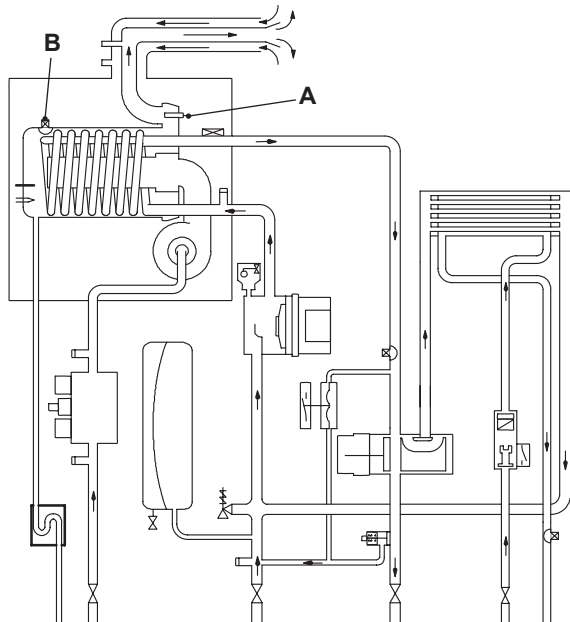
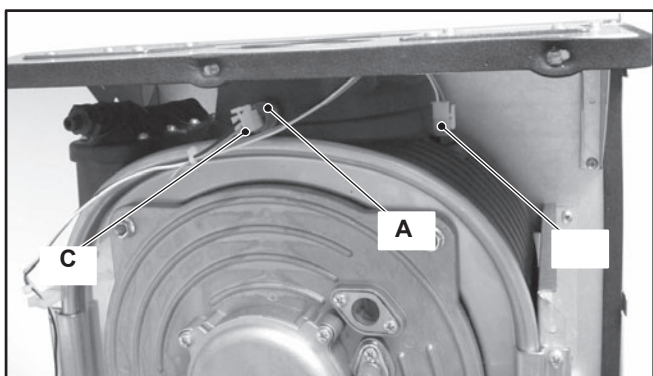

Figure 20.1
Figure 20.2
The Flue temperature probe NTC A in Figure 20.1 and Figure 20.2 senses the temperature of the combustion products that flow through the condensing heat exchanger.
A Safety thermal fuse B in Figure 20.1 - Figure 20.2 is also connected in series with the Flue temperature probe NTC and acts as a safety device in extreme case of incorrect operation of the Flue temperature control system.
- 3 Unscrew and remove the flue temperature probe A (Figure 20.2) from the condensing heat exchanger.